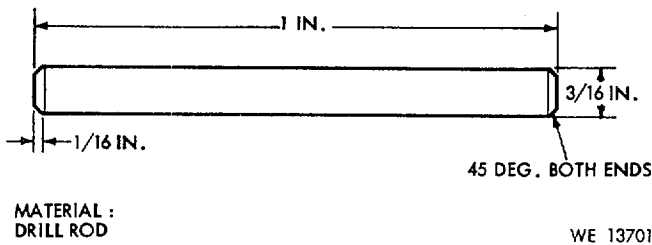

Figure 3-1. Improvised tool for assembly and installation of hammer and cocking lever.
b. Improvised tools are listed in table 3-1, which includes figures 3-1 through 3-4.